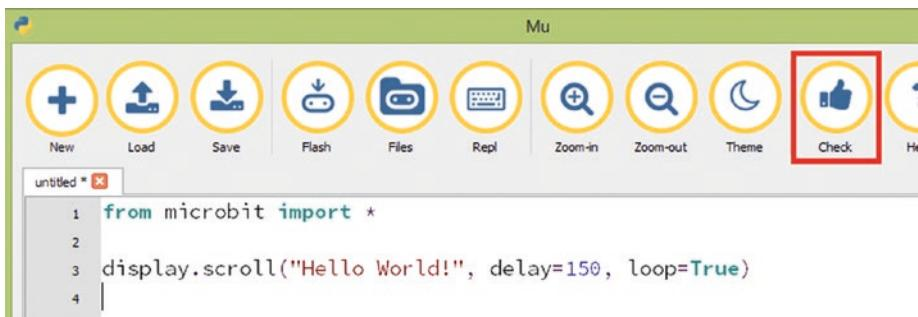

Figure 1-30. The Check button
4. The Check button can be used to check the code for errors before flashing it to the micro:bit (see Figure 1-30).